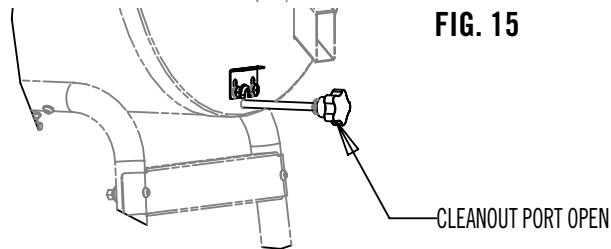

FIG. 15
2. Lift pullout lock and pull clean-out port knob to empty ash into ash cup. See Fig 15